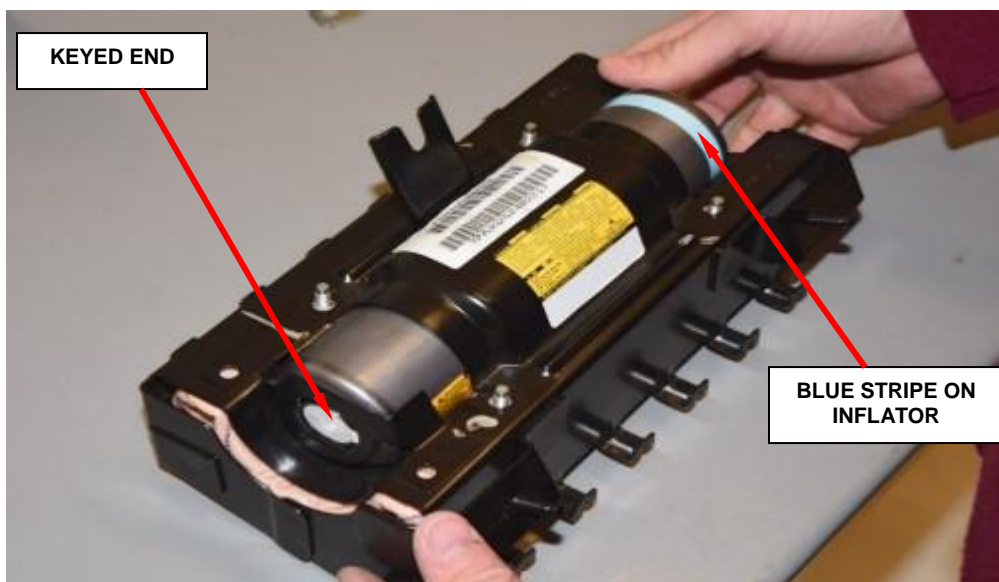

Figure 126 – Insert Inflator
- k. Slide **new** inflator into housing. The keyed end is inserted first, therefore the blue stripe on the inflator will be located at the open end, as shown (Figure 126).